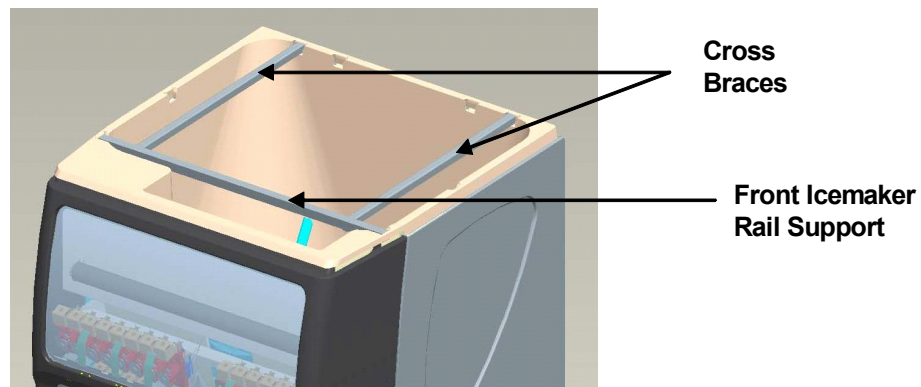

FIGURE 3
2. Place Icemaker rail supports into pockets in the ice bin as shown in Figure 3.